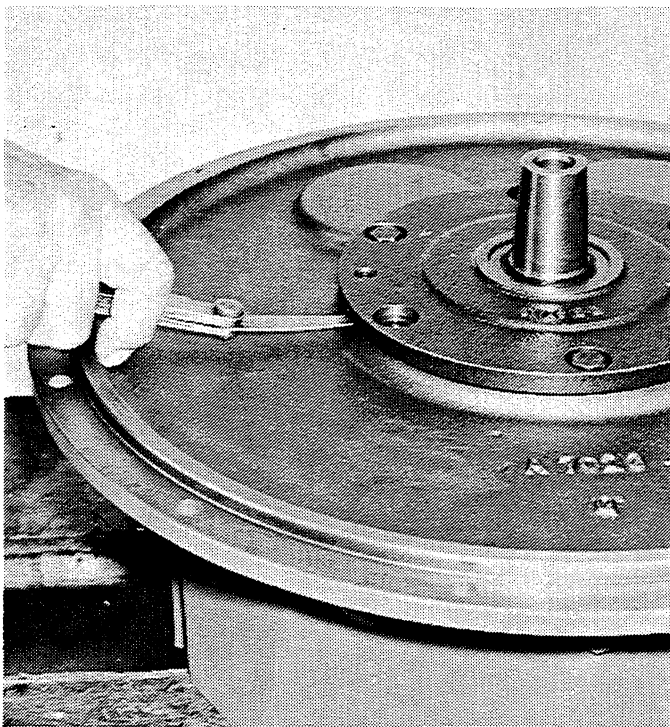

Figure 9-6. Measuring Shim Space Between Support and Housing.
1. Measure with a taper gauge the space between the bearing support (7) and main housing (Figure 12-1, 2). See Figure 9-6.